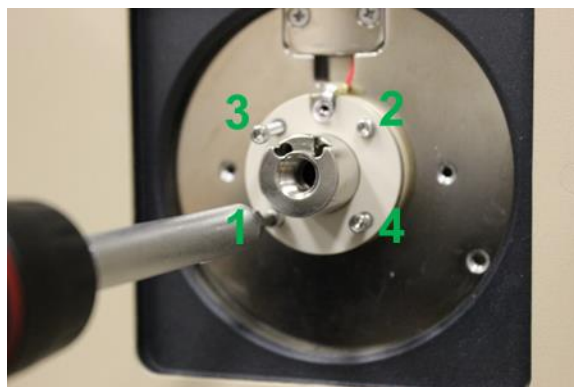

Figure 1.22 – Attaching the inlet capillary housing
12. After the skimmer, tube lens and ESI/DESI source have been cleaned, secure the inlet that was removed in “Step 9” with the four bolts that were previously removed. These bolts should be gently tightened in diagonal order starting with bolt #1 (Figure 1.22).